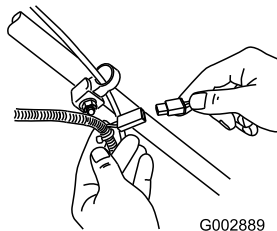

Figure 47
1. Connect the charger to the mower wire harness located below the ignition key (Figure 47).